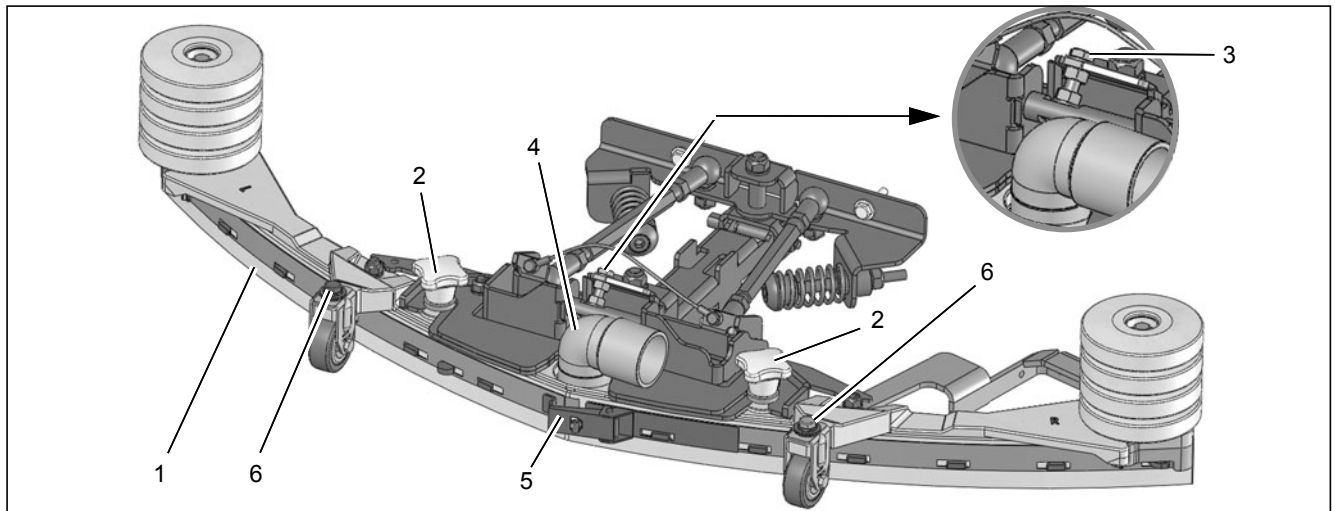

Fig.28
Check the squeegee (Fig. 28/1) daily and clean as necessary.
To clean the squeegee, raise it, disconnect the suction hose (Fig. 28/4), loosen the two star-shaped knobs (Fig. 28/2) and remove the squeegee.
Check the inner and outer sealing strips on the squeegee (Fig. 28/1) weekly for signs of wear. The sealing strips can be turned four times (90°) and reused.
3. Loosen the fastening device (Fig. 28/5) and remove the outer sealing strip. Turn the sealing strip or replace it, as necessary. Change the inner sealing strip in the same way.
2. Loosen the counternut on the screw (Fig. 28/3) and use the counternut to adjust the squeegee so that the ends of the sealing strips just make contact with the floor.
The height adjustment is set to 3 mm at the factory. If, despite an optimum angle adjustment, streaks are produced, the distance between the rollers and floor must be adjusted by altering the number of washers (Fig. 28/6) on the holder.